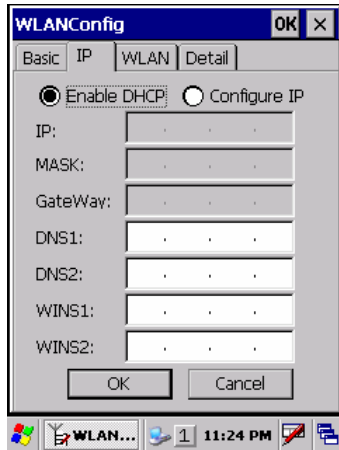

Figure 5.25
2. If any of the settings in Figure 5.25 is omitted, the process described in the following table will automatically take effect in the field.